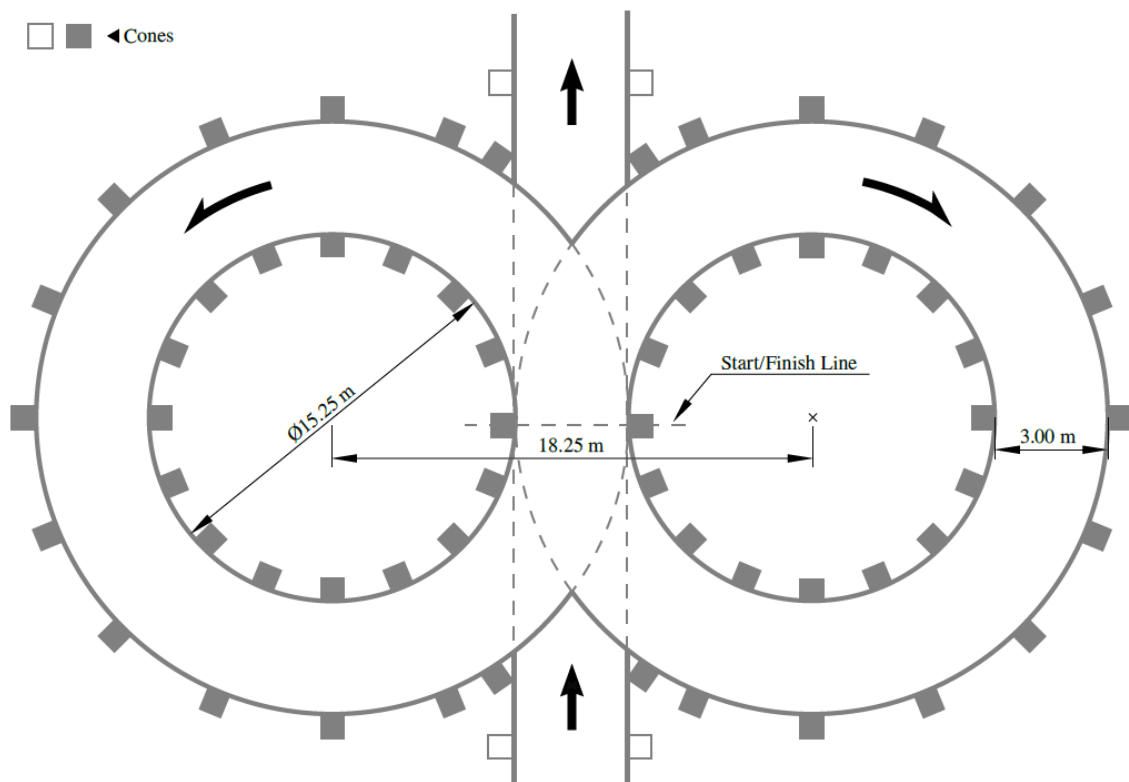

Figure 8: Skidpad Track Layout
- D4.1.1 The skidpad track consists of two pairs of concentric circles in a figure of eight pattern, as shown in Figure 8.